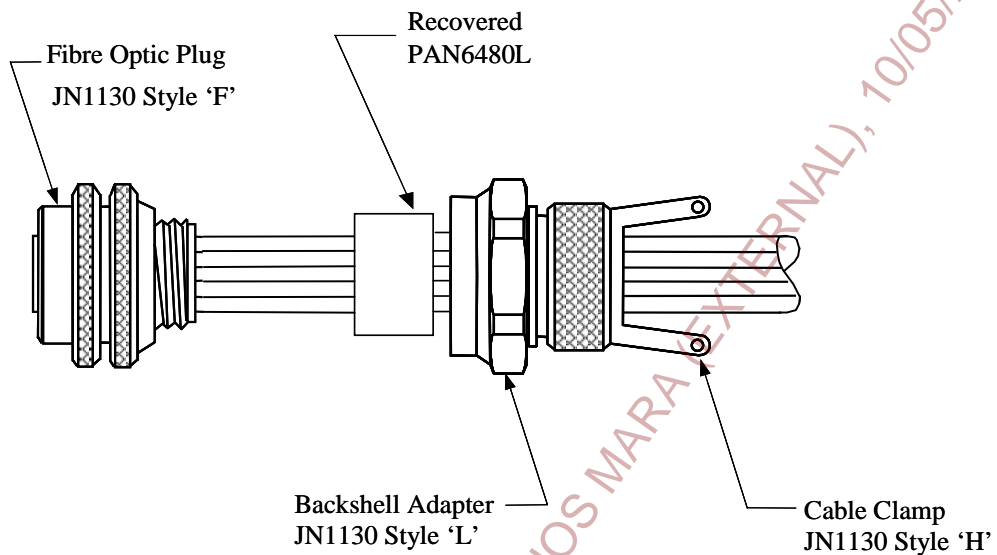

Figure 20
4.3.6 Recover the heathsrink in accordance with INS501. See figure 20.